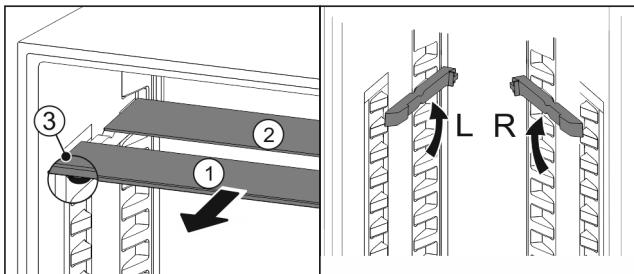

Fig. 102
- ▶ Pull the glass panels out Fig. 102 (1) from the front, one at a time.
- ▶ The glass panel Fig. 102 (1) and trim strip are at the front.
- ▶ The stops Fig. 102 (3) point down.